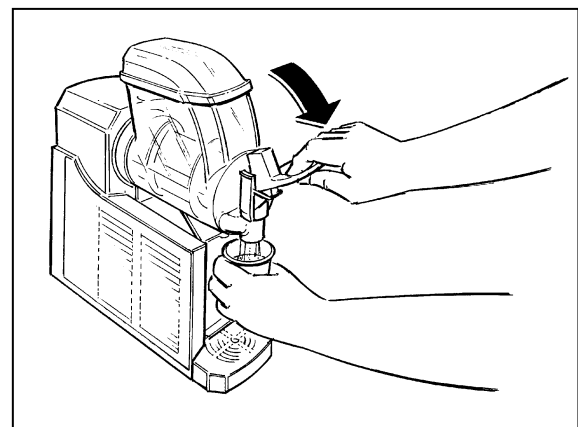

Fig. 26
- Once the desired product consistency is reached, to dispense product position a cup under the tap and lower the lever as shown in figure 26.